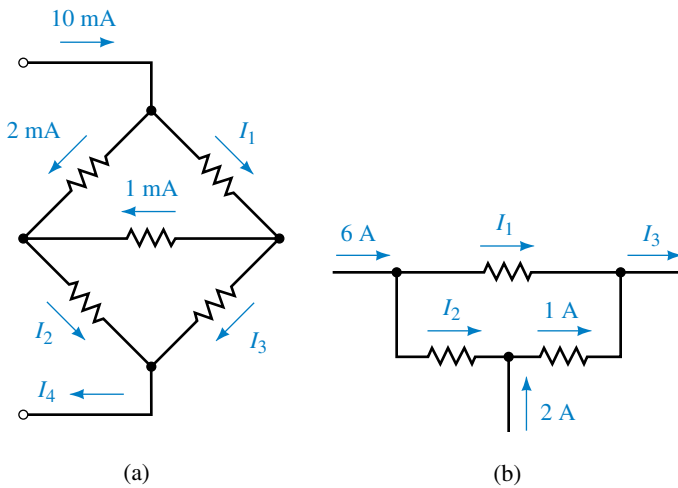

FIGURE 6-54
8. Find each of the unknown currents in the networks of Figure 6-54.